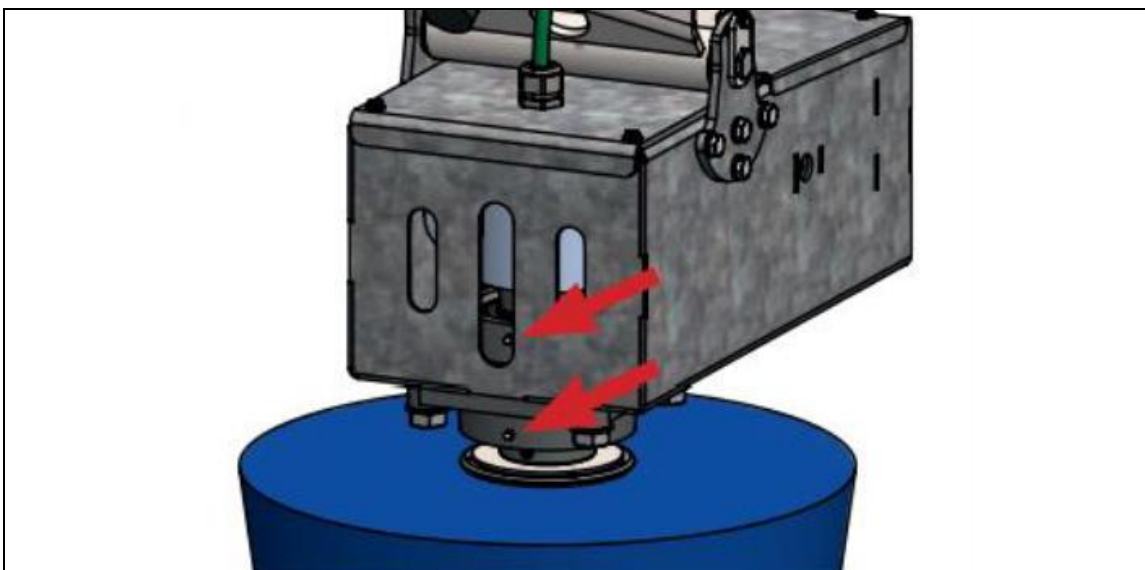

Fig. 12: Position of grease nipple
Lubricate the flange bearing units at the locations marked (Fig. 12). Check plain bearing bushed (Fig. 14 – item 2.2) for wear. These parts must be inspected regularly and replaced if they are wearing too much.